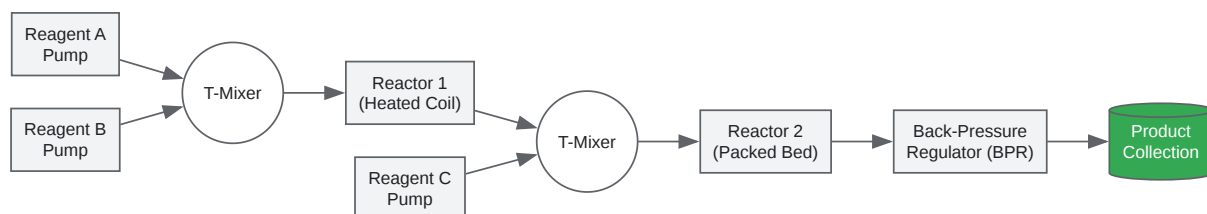

Figure 3: Generic Multi-Step Continuous Flow Synthesis Setup
Caption: Figure 3: Generic Multi-Step Continuous Flow Synthesis Setup
- **System Assembly:** Assemble the flow reactor system as shown in Figure 3. Ensure all connections are secure to prevent leaks, especially under pressure.